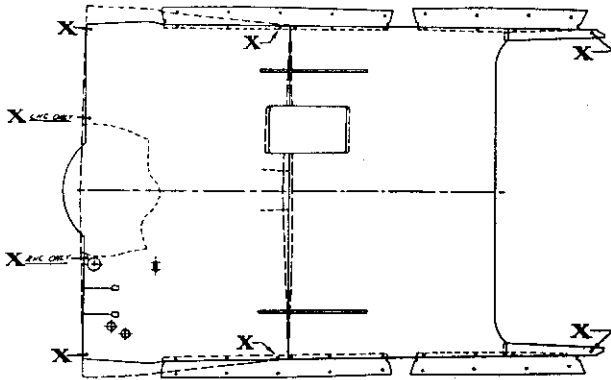

FIG. 37.—FOUR-DOOR SEDANS
**CHAMPION AND COMMANDER** The front and rear floor carpets should be securely fastened to the floor pan with the scuff plate retaining screws. Additional screws are provided in an envelope in the tool compartment. The "X" marks in figures 37 through 40 show the correct points at which the additional screws should be installed on the different body types. Be sure to install the front floor carpet (or mat) under the steering post dash rubber grommet.